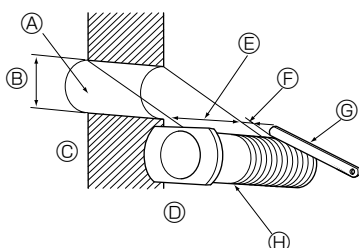

Fig. 3-6
3.4.1. Making holes (Fig. 3-6)
- ① Make $\phi 65$ mm or $\phi 75$ mm holes that are approximately 5–7 mm deep and angled slightly downward outward from the room.
- ② Insert the wall hole sleeves into the holes.
- ① Wall hole
- ② 65 mm or 75 mm dia.
- ③ Indoor side
- ④ Wall hole cross section
- ⑤ Wall thickness
- ⑥ One scale
- ⑦ Cut with 1 extra scale length.
- ⑧ Wall hole sleeve